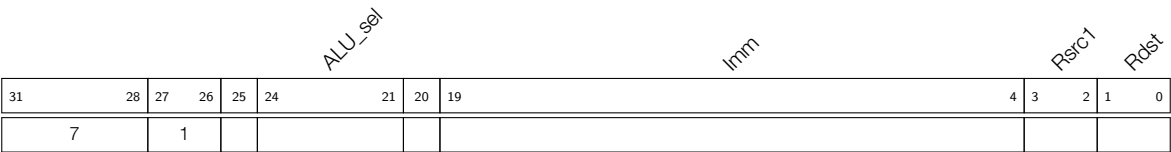

Figure 28-8. Instruction Type — ALU for Operations with Immediate Value
When bits [27:26] of the instruction in Figure 28-8 are set to 1, ALU performs operations using register R[0-3] and the immediate value stored in instruction bits [19:4]. The types of operations depend on the setting of the instruction bits ALU\_sel[24:21] presented in Table 151.
**Operand**    **Description** - see Figure 28-8